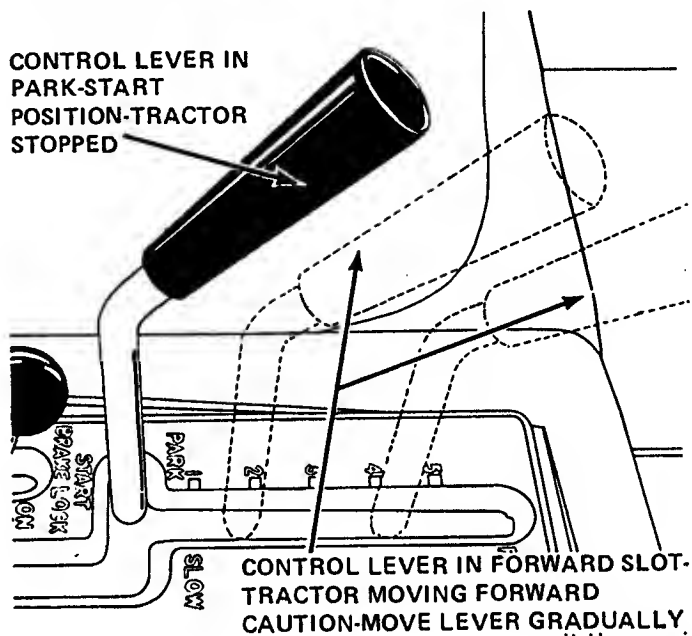

Figure 9
5. To move the tractor forward and increase the forward travel speed, gradually push the hydrostatic control lever forward from the neutral position as shown in Figure 9. To stop or slow down the tractor, pull the control lever back toward the neutral position.